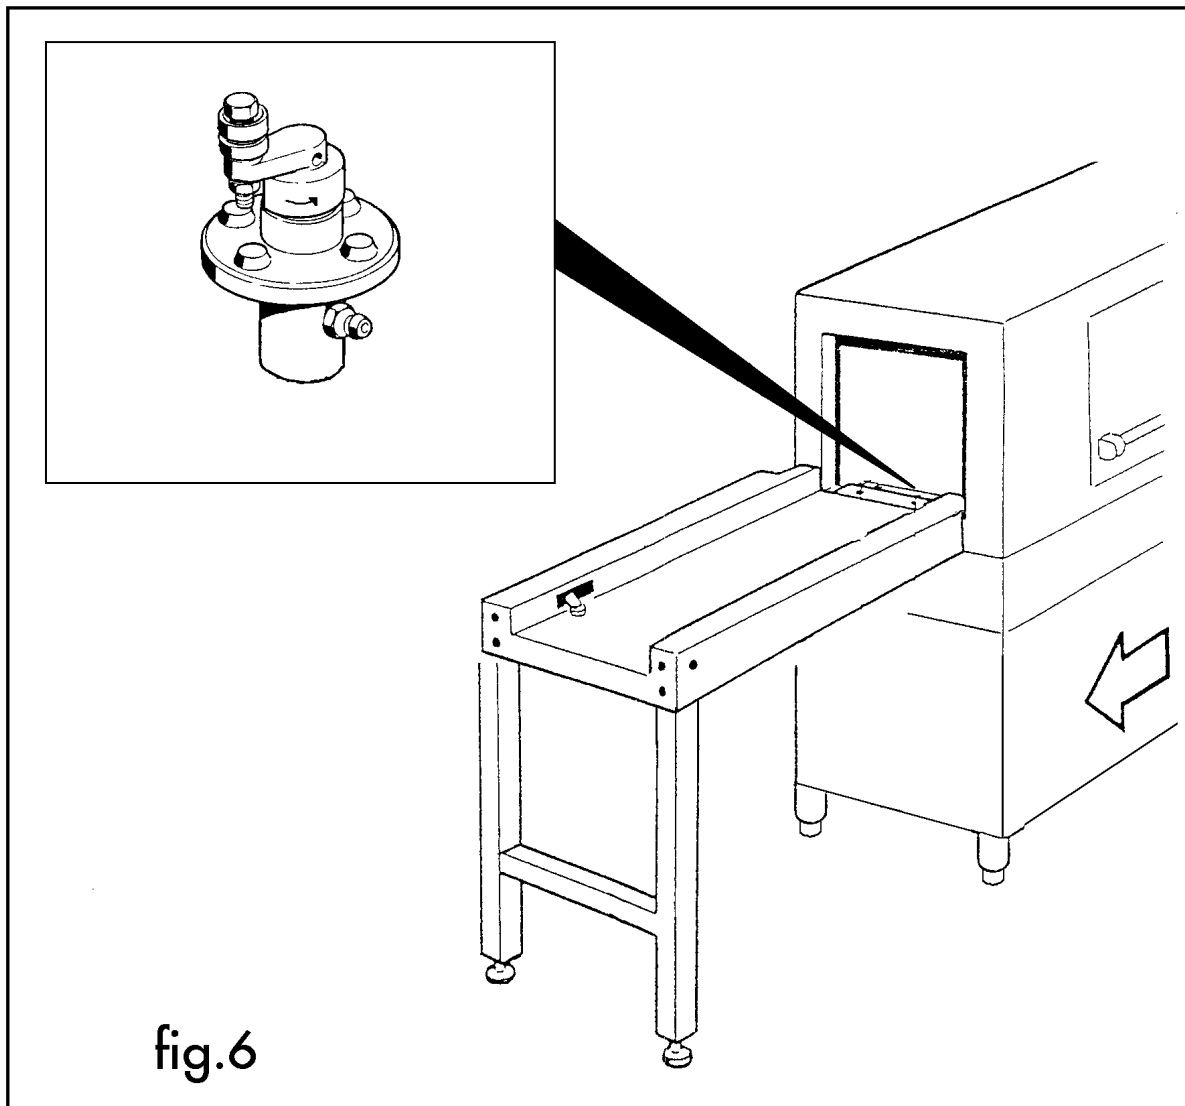

fig.6
- Make sure that all motors turn in the right direction; generally this can be taken for granted if the arrow on the drive assembly turn in the right direction (fig.6).